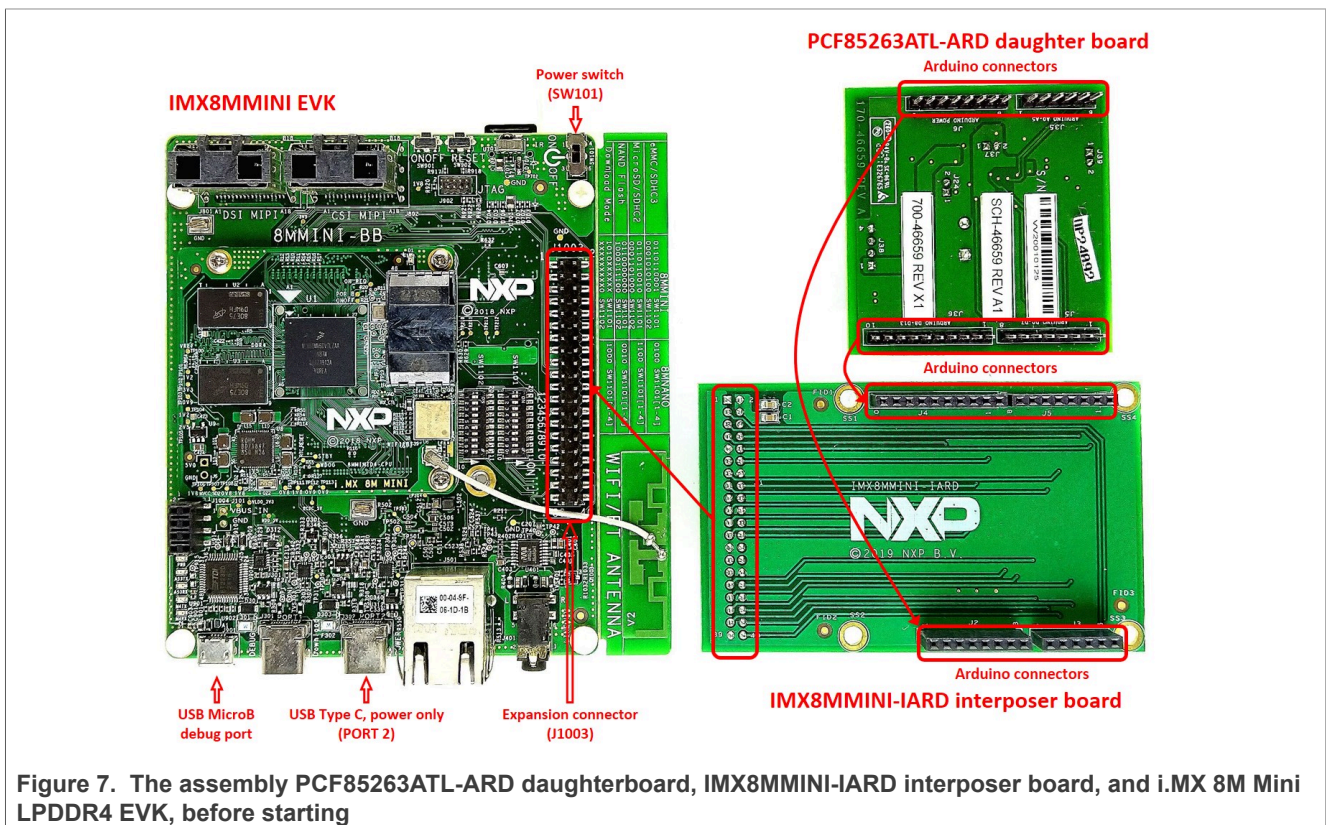
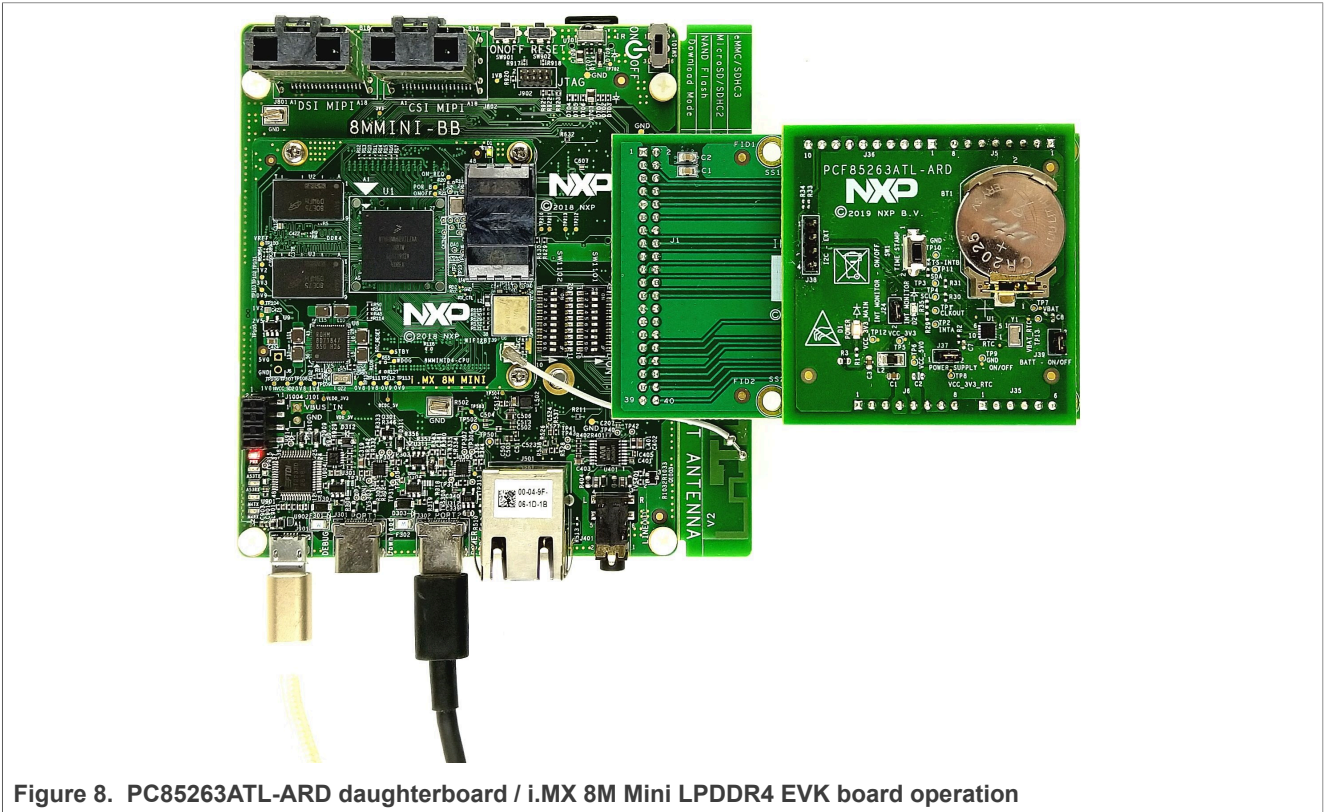

Figure 7. The assembly PCF85263ATL-ARD daughterboard, IMX8MMINI-IARD interposer board, and i.MX 8M Mini LPDDR4 EVK, before starting
Figure 8. PCF85263ATL-ARD daughterboard / i.MX 8M Mini LPDDR4 EVK board operation
To operate the setup, along with the EVK and the daughterboard, a third board must be included in the setup assembly. Figure 7 shows the necessary boards and how these boards are connected. The configuration consists of:
To power-up the EVK, an USB-C type cable connected to PORT 2 of the EVK is used. The power switch SW101 on the EVK board must be set to ON position to power-up the setup. Data communication is achieved by routing a separate USB (Micro-B type) cable from an USB port on the PC to debug port (J901) on the EVK (see Figure 7 and Figure 8).
2. Attach IMXMMINI-IARD connector plug J1 (located on the bottom of the board) into J1003 expansion board located on the top side of i.MX 8M Mini LPDDR4 EVK (see Figure 8);